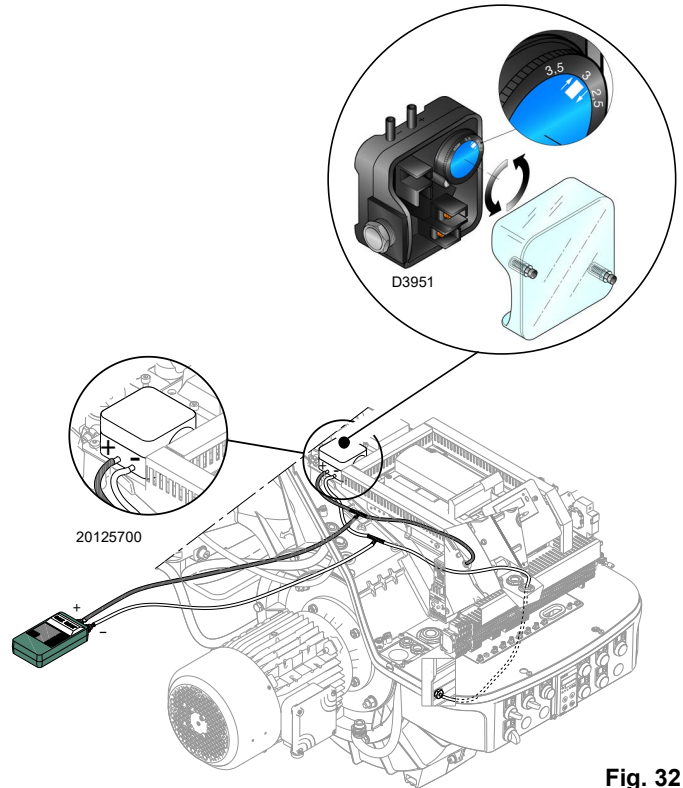

Fig. 32
- Adjust the air pressure switch to the zero position of the scale (Fig. 32 on page 30).
For the **RS 310-410-510** models, the air pressure switch is connected in absolute mode and is activated by the positive pressure from the fan (Fig. 32).
Adjust the air pressure switch (Fig. 32) after having performed all other burner adjustments with the air pressure switch set to the min. of the scale.